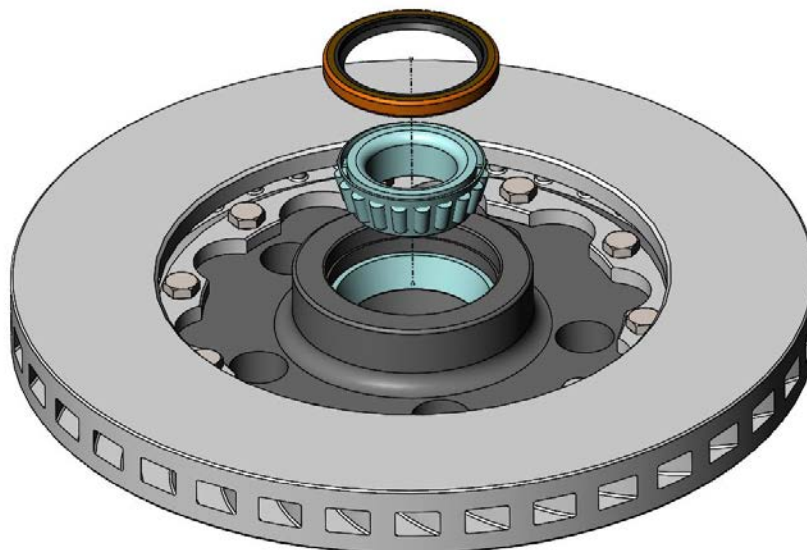

Figure 4 – Inner Wheel Bearing and Grease Seal Installation
7. The installation of the Inner wheel bearings and grease seals is next. The wheel bearings must be packed with a high quality wheel bearing grease available at your local parts store. Once the bearings are packed, the inner wheel bearings can be installed in the rotors. Once the inner bearings are installed, tap the inner grease seals in at this point. Figure 4 below shows them being installed.